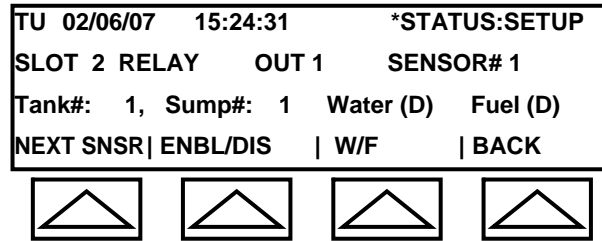

Fig. 4-15f: Sensor (Product Distinguishing) Activator
6. If the sensor selected in Step 6 was a product distinguishing sensor, then water and fuel options would appear (see Figure 4-15f).